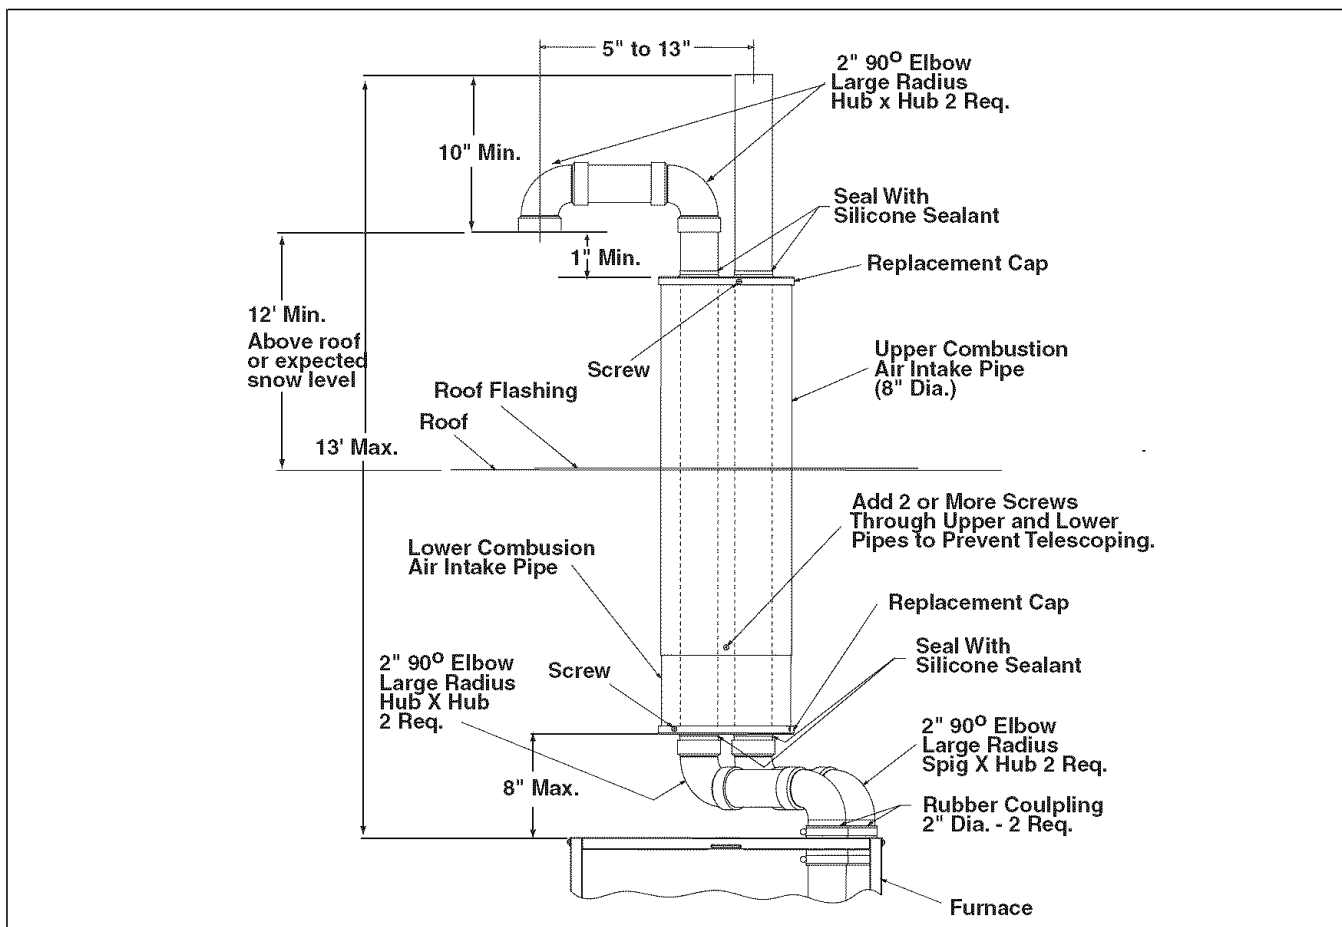

Figure 2. Vent and Combustion Air Intake Pipe Installation
4. Cut 2" plastic pipes and route the vent and combustion air intake pipes through the replacement caps as shown in Figure 2.